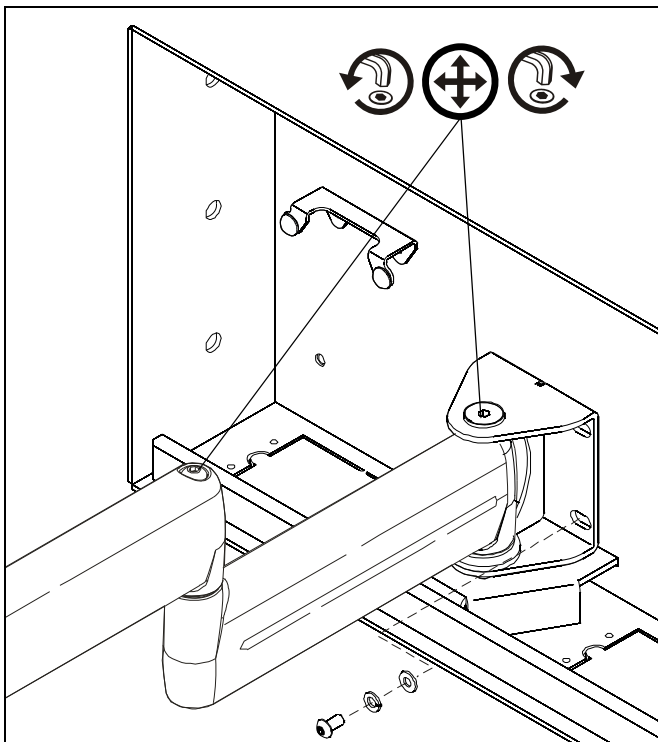

Figure 8
1. Using 3/16" hex key (P), slightly loosen or tighten the adjustment screw(s) as necessary (See Figure 8).